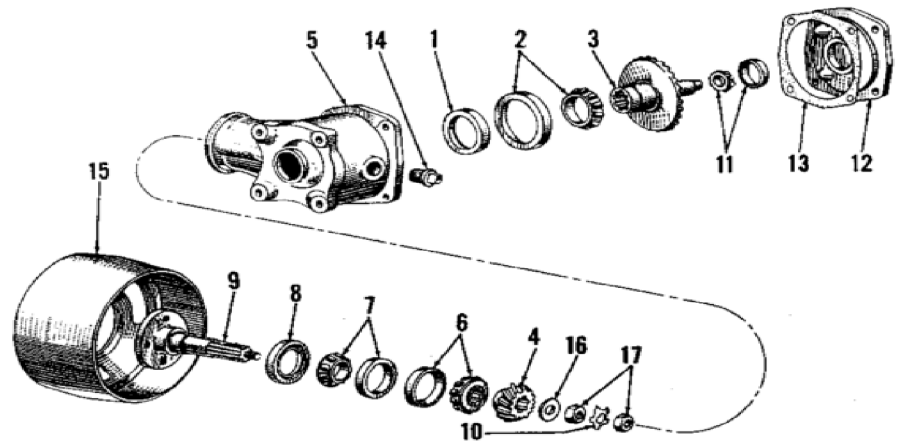

Fig. 366-Exploded view of riem katrol assemblage beschikbaar voor de modellen 2000 en 3000.
337. Refer to exploded view of unit in Fig. 366 and proceed as follows: Drain lubricant and remove cover (12). Straighten tabs on washer (10) and remove nuts (17), then remove shaft (9), outer bearing (7) and seal (8) from housing. Withdraw driven gear (4) and bearing (6) from housing. The drive gear (3) can now be removed. To renew seal (1), remove bearing (2) cup and drive seal to inside of housing. Install new seal with spring loaded lip to inside. To renew oil seal (8), pull bearing (7) cone and roller from shaft (9) and remove seal. Fit new seal over shaft